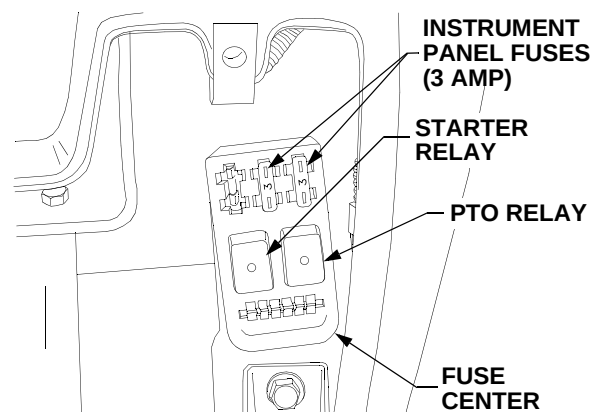

Figure 36
- Pull the two fuses from the fuse center and check their condition. Replace a blown fuse with the same capacity fuse (3 Amp). Refer to Figure 36.
The PTO relay and starter relay, located in the fuse center, maintain power to each of those circuits. If one of the circuits is not functioning properly, have your dealer electrically check the relay. See Figure 36.